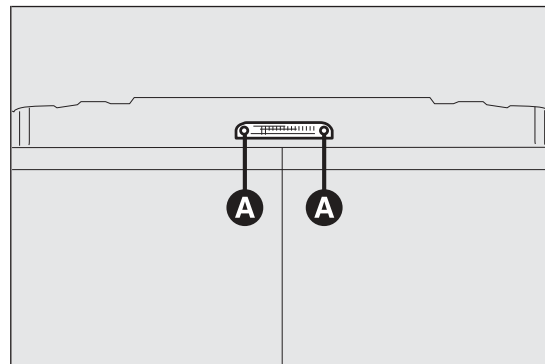

fig. 204
- ❑ undo the two fixing screws fig. 204;